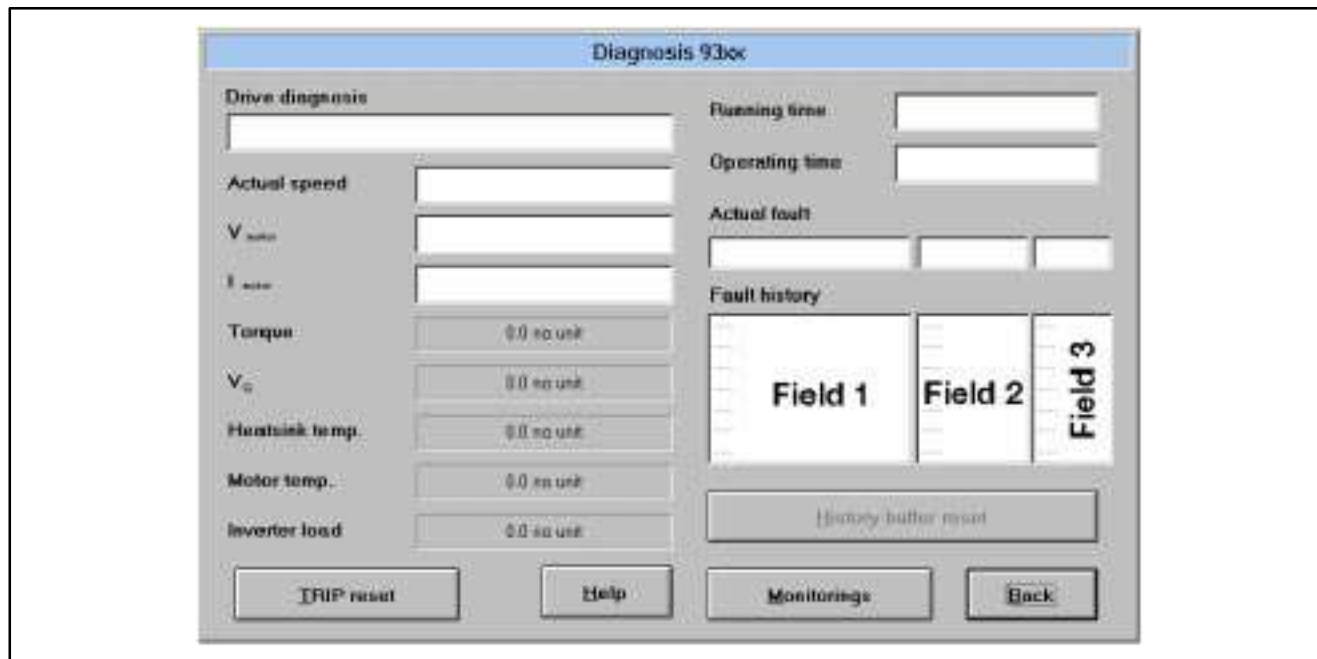

Fig. 8-3 Dialog box "Diagnostics 9300"
- the history bufferr (Fig. 8-3)